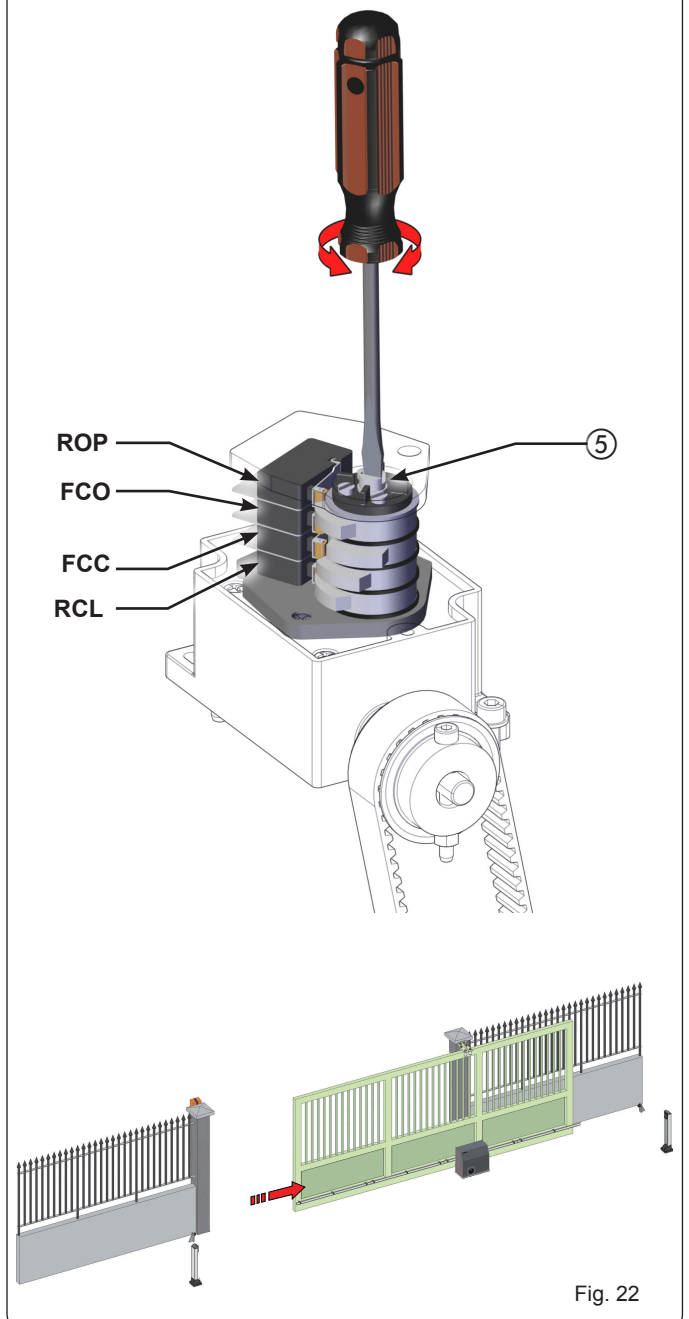

Fig. 22
4. Loosen the central locking screw of the limit switch unit (Fig. 22 ref. ⑤).
16. Tighten the central locking screw of the limit switch unit (Fig. 22 ref. ⑤).